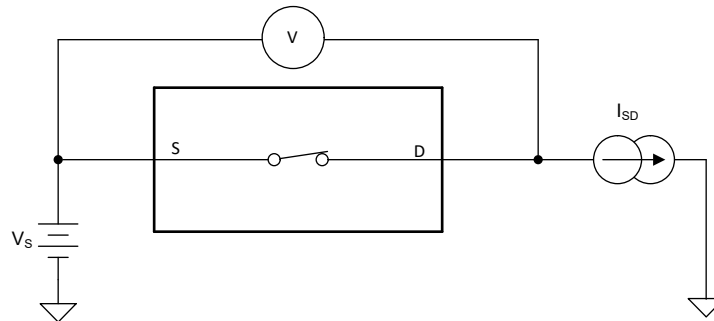

Figure 8-1. On-Resistance Measurement Setup
The on-resistance of a device is the ohmic resistance between the source (Sx) and drain (Dx) pins of the device. The on-resistance varies with input voltage and supply voltage. The symbol R_{ON} is used to denote on-resistance. Figure 8-1 shows the measurement setup used to measure R_{ON} . Voltage (V) and current (I_{SD}) are measured using this setup, and R_{ON} is computed with $R_{ON} = V / I_{SD}$.